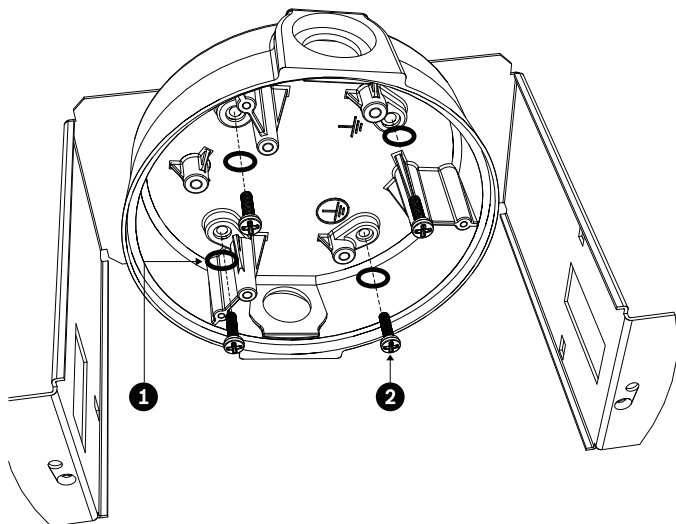

Figure 6.13 Attach VJR-A3-JW to Mounting Bracket
- Align the holes of the VJR-A3-JW with the mounting bracket. Note the alignment of the VJR-A3-JW relative to the bracket in *Figure 6.13* below to ensure that the VJR-A3-JW knockouts are not covered by the bracket arms.
- Thread the four (4) 3.97 mm I.D. by Ø1.78 mm O-rings (item 1, *Figure 6.13*) onto the four (4) M4 x 16 Phillips Pan Head Machine Screws (item 2).
10. Attach the VJR-A3-JW to the mounting bracket using the four (4) M4 x 16 Phillips Pan Head Machine Screws (item 2, below).